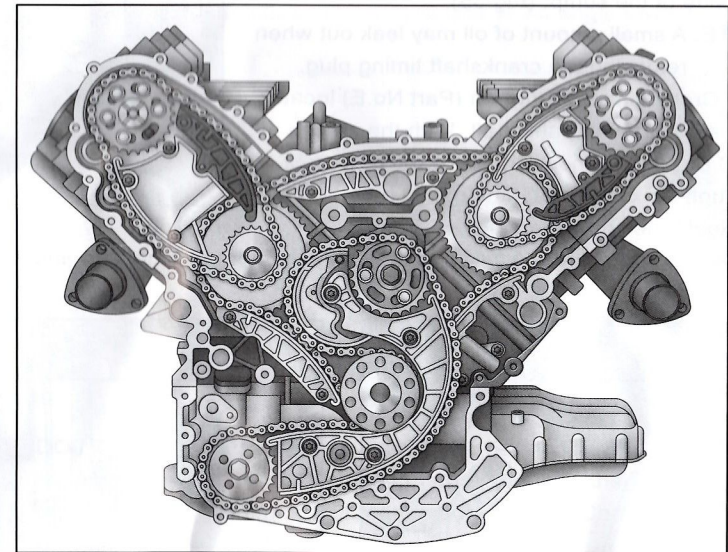

Fig.32
- (1) Remove the three timing chain covers giving access to the timing chains. (Fig.32)